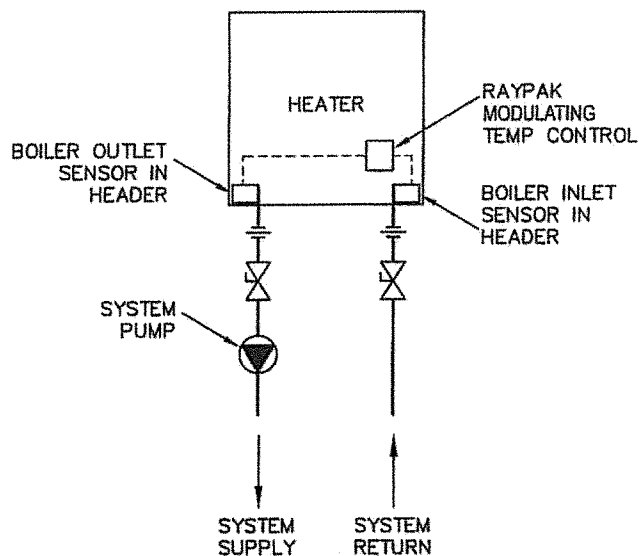

Fig. 27: Mode 1 Primary Piping
**Mode 1 – Setpoint operation using primary piping.** The heater outlet water temperature is controlled to the boiler target setpoint. See Fig. 27.